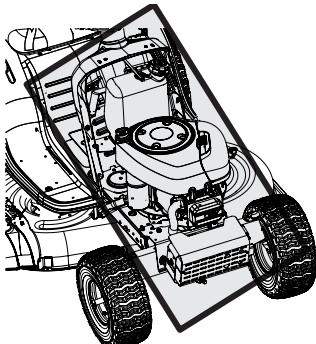

Figure 19
- Clean under the hood, including exhaust manifold, around fuses, all wiring and harnesses, muffler pipe, muffler pipe, engine intake screens and cooling fins, etc. See Figure 19.